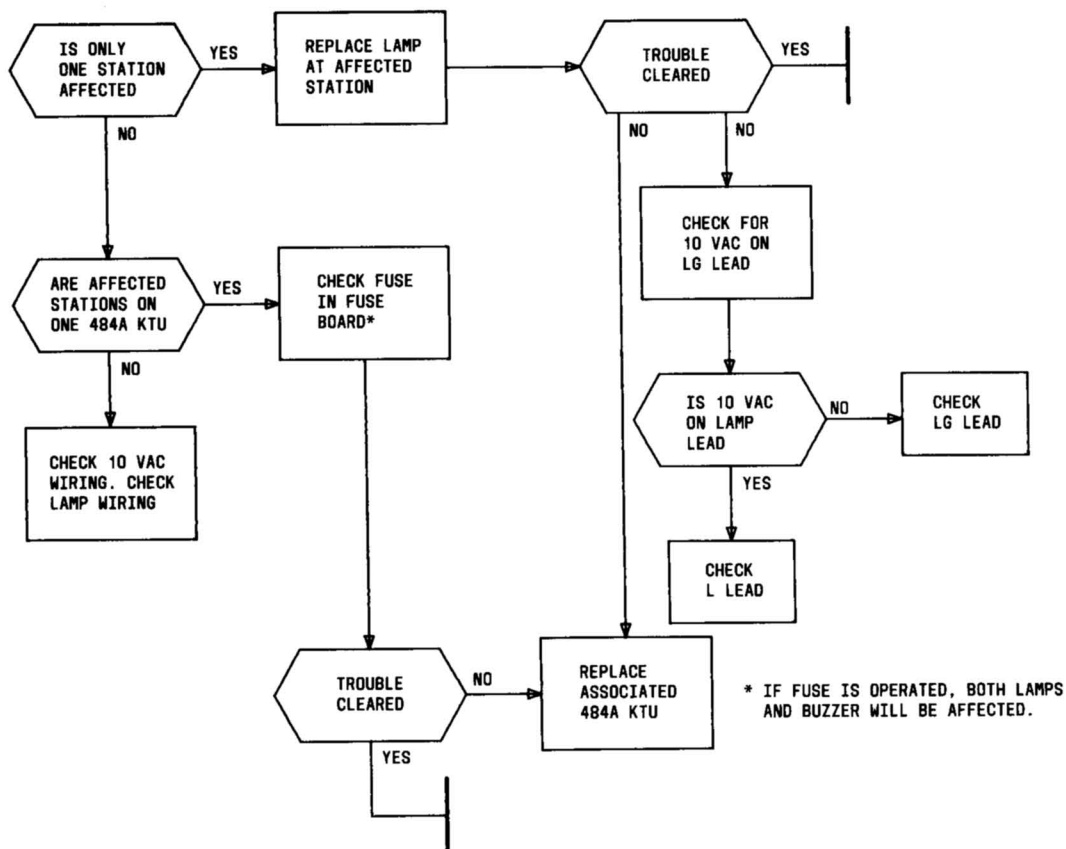

Fig. 13—Intercom Lamp Does Not Light
- Trouble analysis charts (Fig. 13 through 22)